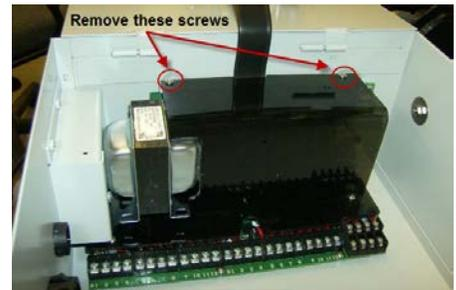

Figure 1
- b. Remove the two screws that secure the black plastic cover over the controller PCA board. Put the cover and the screws in a dust free location. (See Figure 1.)